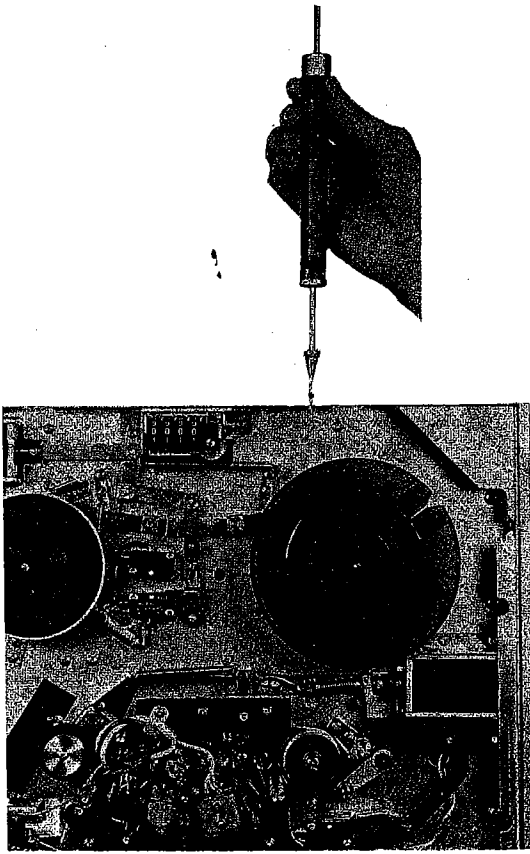

Fig. 9
- 1) Use a 60 mm diameter tape wound on a 5" reel and measure the brake tension with a tension gauge as shown in Fig. 9. Ideal tape tension is 350 grams.